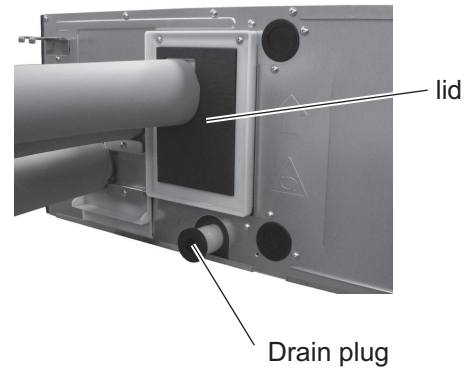

Fig. 1
2. Remove the lid (drain pump). (Fig. 1)
3. Remove the drain plug and drain the water from the drain pan. (Fig. 1)